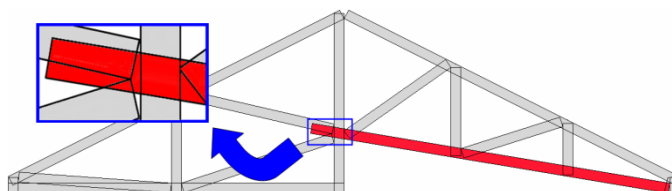

Figure 62: The bottom chord of this studio truss extends to the *Far Side* of its anchoring king post.
- *Far Side* – If this option is selected, the chord extends beyond the vertical web (run through) to which it is anchored. (See Figure 62.)
- **Studio Joint** – A joint where a chord intersects the vertical web of a studio truss. (See Figure 62 on the preceding page.)